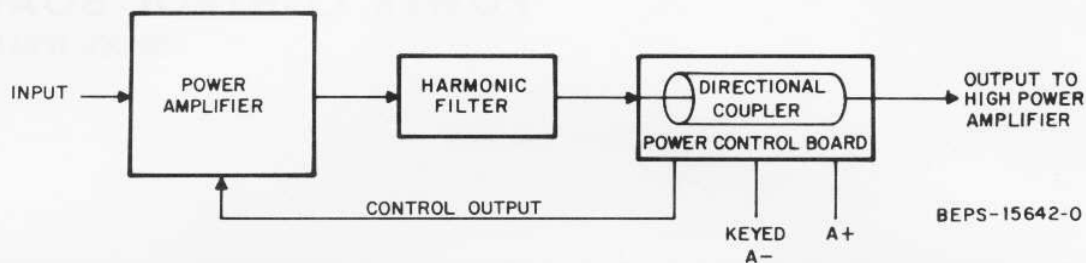

Figure 1.
2.1 Refer to the loop block diagram, Figure 1. The circuitry operates as a control loop which continually monitors the output from the amplifier and controls that output by regulating the gain of the first stage of the power amplifier.